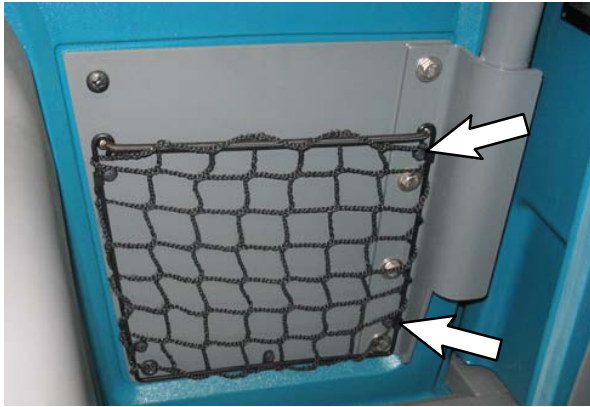

FIG. 15
29. Use the two M5 pan screws to install the front portion of the mesh to the left front guard tube (9). (Fig. 15)